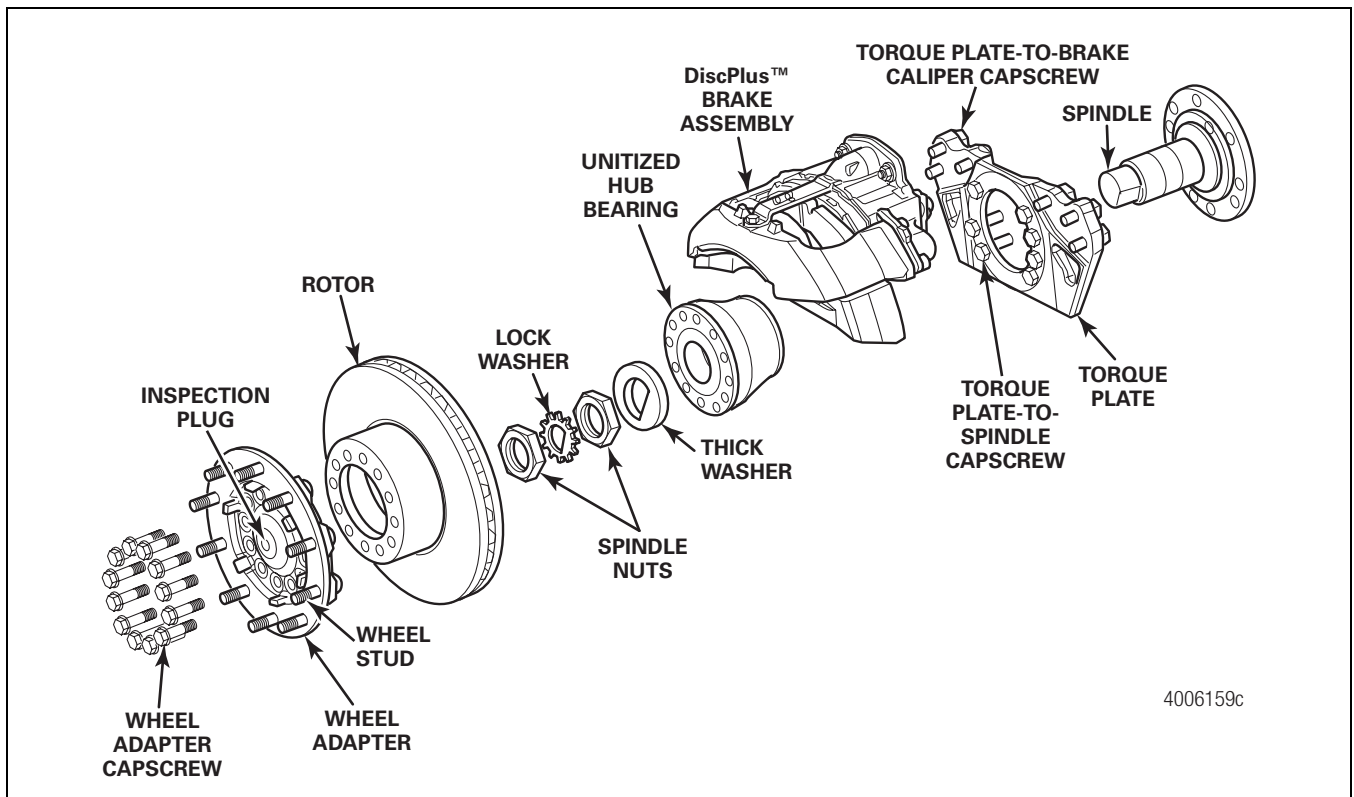

Figure 13.22
4. Remove the wheel adapter and rotor. Inspect the rotor for cracks and signs of wear. Replace the rotor if necessary. Figure 13.22.